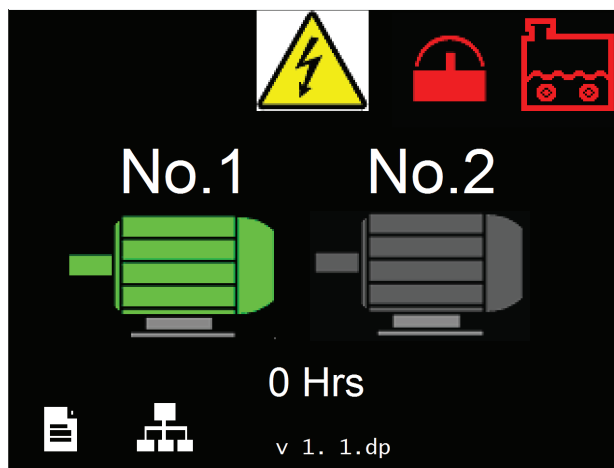

Figure 7.22 - Motor 1 Running
- » Motor No.1 starts to flash green, when fully running will change to steady green, Reference: Figure 7.22 (Item 3).